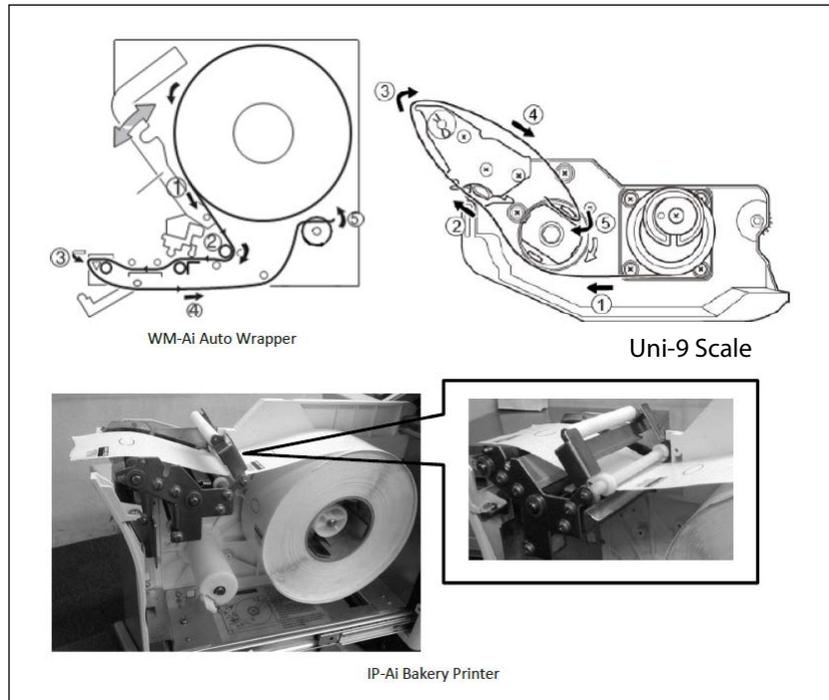

Figure 2-10. New Roll and Thread Loading
5. Load the new roll and thread (See Figure 2-10).